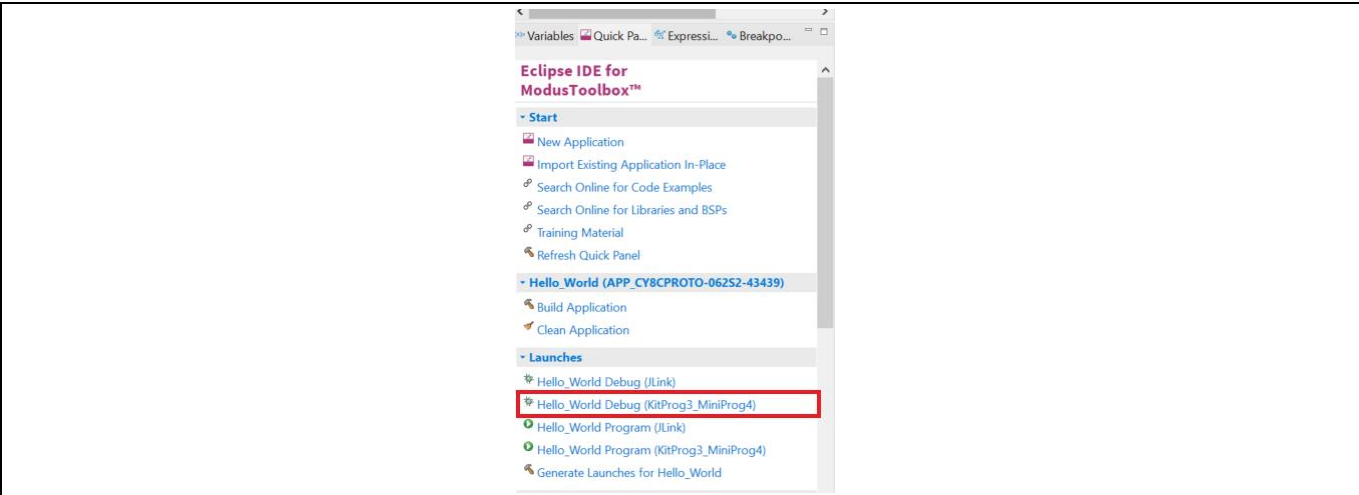

Figure 8 Debugging in ModusToolbox™
5. ModusToolbox™ has an integrated debugger. To debug a PSoC™ 6 MCU application, in the Project Explorer, select **<App_Name>** project. In the Quick Panel, scroll to the **Launches** section and click the **<App_Name> Debug (KitProg3_Miniprogram4)** configuration as shown in **Figure 8**. For a detailed explanation on how to debug using ModusToolbox™, see section 5 of **ModusToolbox™ user guide**.